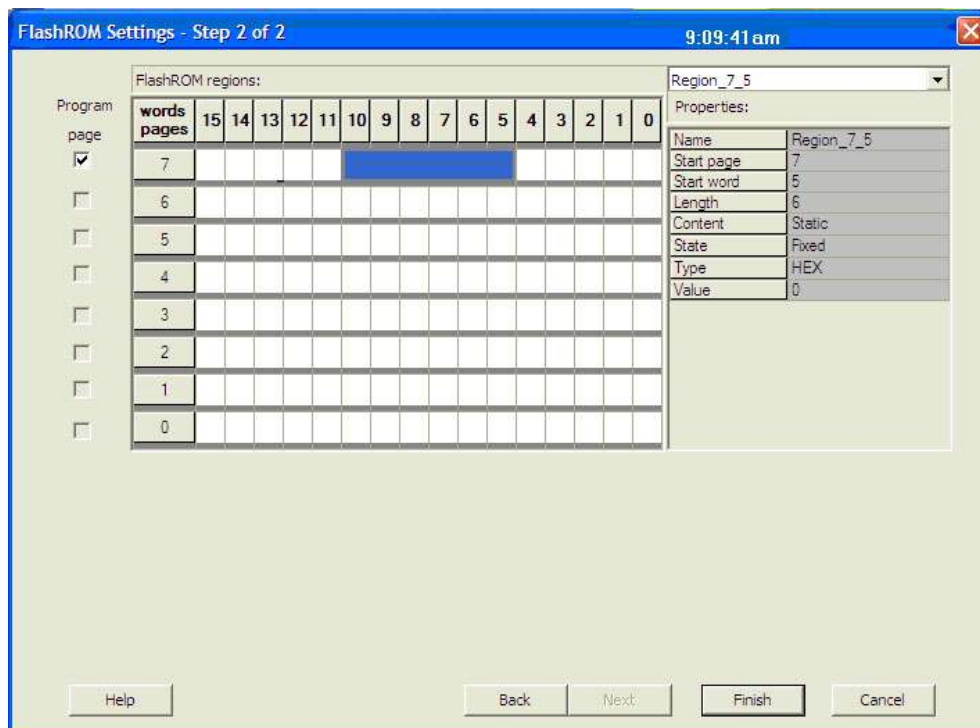

Figure 12-13 • FlashROM Configuration Settings for Low Power Flash Devices
- Choose the desired settings for the FlashROM configurations to be programmed (Figure 12-13). Click **Finish** to generate the STAPL programming file for the design.